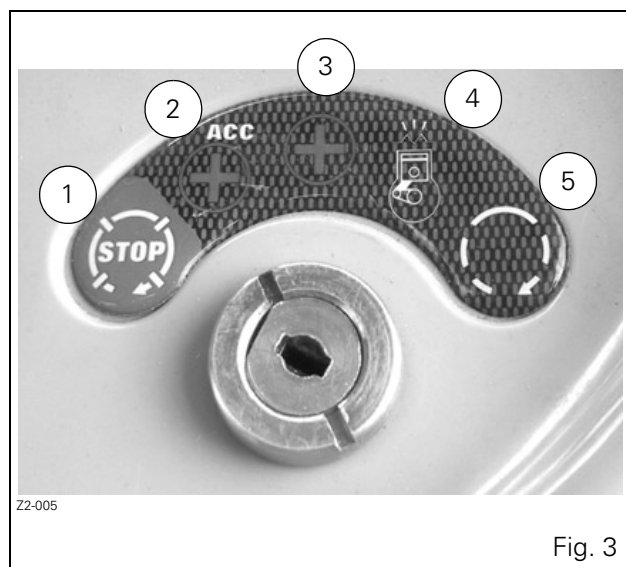

Fig. 3
1. Start switch (see details in Fig. 3).
Start switch details (Fig. 3):